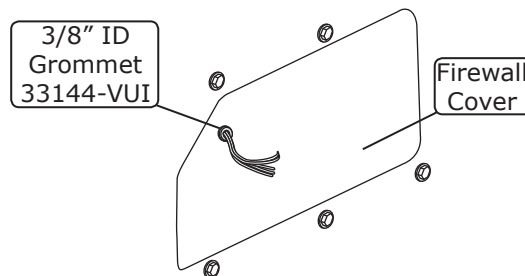

Figure 17
2. Install a 3/8" ID grommet into the firewall cover (See Figure 17, below).
3. Route the A/C wires (12 volt/ground/binary switch/heater control valve) through 3/8" grommet as shown in Figure 17, below.